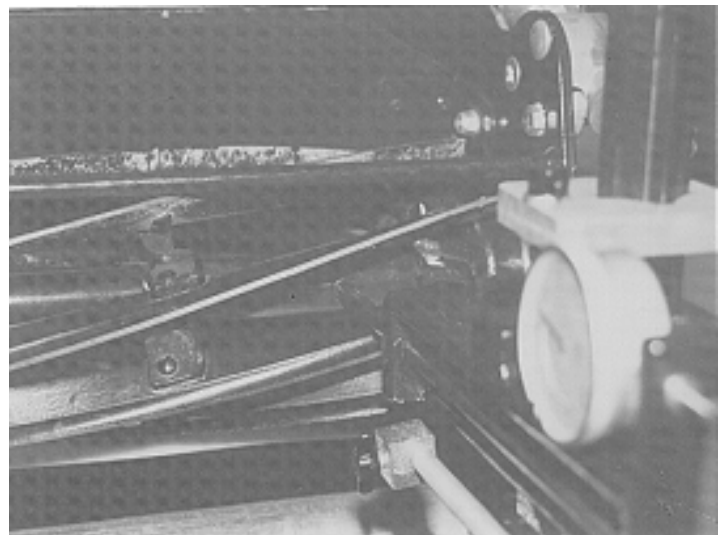

Fig.16
- A. Place set up gage on the right hand side of reel approximately 1" from the end. (See Fig. 16)